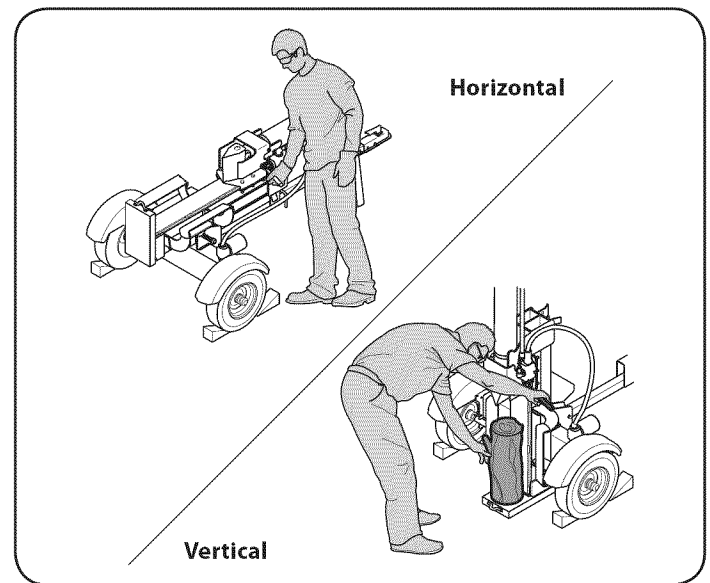

Figure 1
- a. Horizontal Operating Position: Stand behind the reservoir tank to operate the control handle and to stabilize the log as shown in Fig. 1.
- b. Vertical Operating Position: Stand in front of the beam and log as shown in Fig. 1.